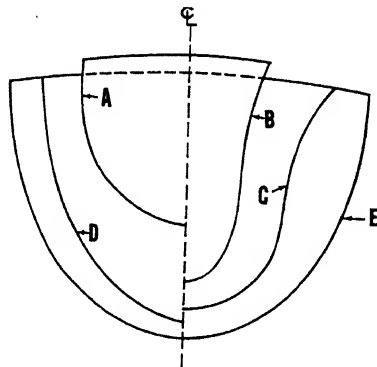

Figure 1B.-Body plan.
- Items 1-69 through 1-71 refer to figure 1B.